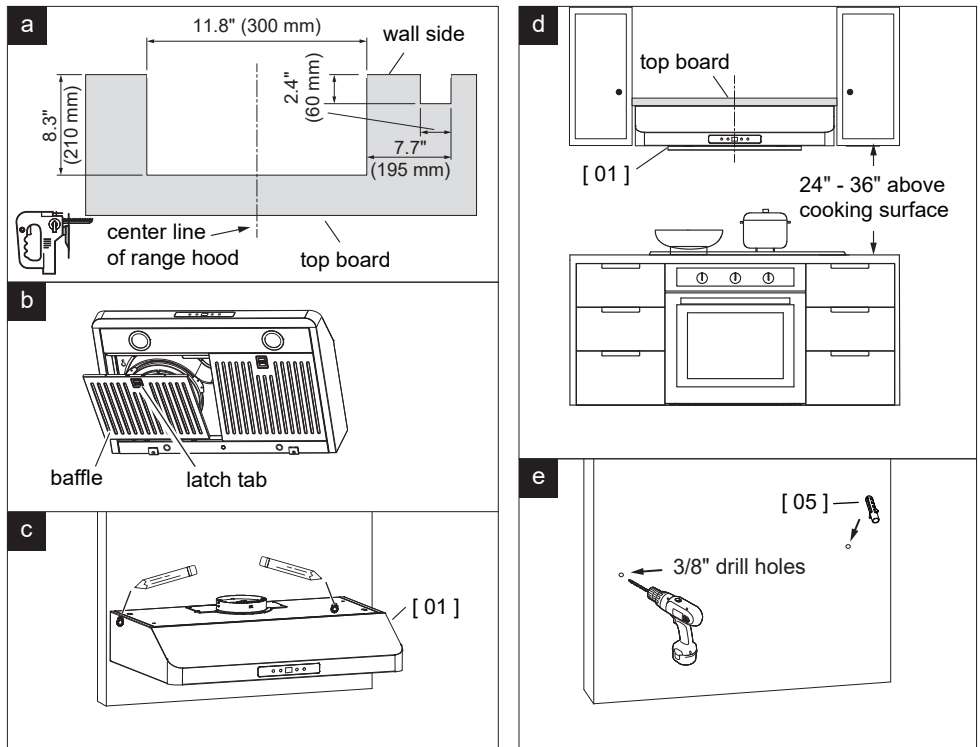

Fig 2
1. Cut openings on the board which is at the top of the **Range Hood [01]** according to Fig 2.a.
2. Remove the baffles from the **Range Hood [01]** by pulling down the metal latch tabs and tilting baffles downward to remove. (There are 2 baffles for RH-AZ0376TSS, 3 baffles for RH-AZ0391TSS) (Fig 2.b)
3. Position the **Range Hood [01]** to the wall and push to the **top board**. (Fig 2.d)
4. Mark the screw holes from the inside of **Range Hood [01]** on the wall as figure shows. Remove the **Range Hood [01]**. (Fig 2.c)
5. Drill holes at locations according to Fig 2.e and insert **3/8" Anchors [05]**. (Fig 2.e)